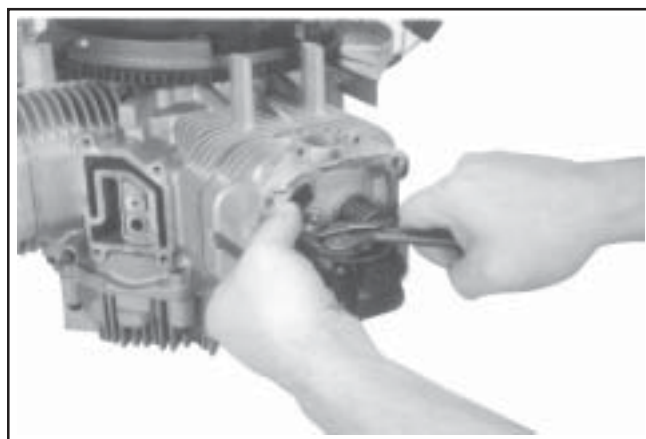

Figure 11-43. Using Spanner Wrench to Lift Rocker Arm Over Push Rod.
4. Use a spanner wrench or rocker arm lifting tool (see Section 2), to lift the rocker arms and position the push rods underneath. See Figure 11-43.